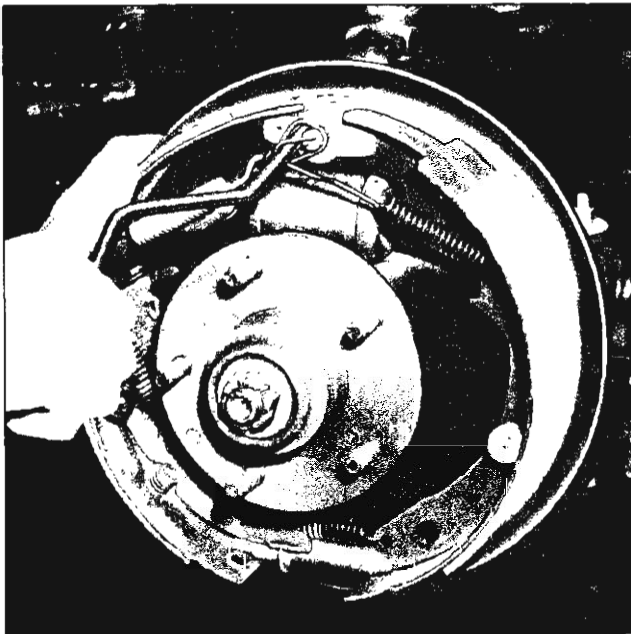

Fig. 10—Installing Pull Back Springs
13. Hook springs in shoes using Tool J-8049 by installing the primary spring from the shoe over the anchor pin and then spring from secondary shoe over the wire link end (fig. 10).